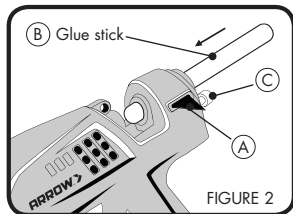

FIGURE 2
- Always attach "wing stands" (see FIGURE 2-A) to the tool. They help prevent glue gun from back flowing if the tool is placed on its side.
- Screw glue control knob into the back of tool to adjust glue output (see FIGURE 2-C).
- Insert 1/2" (12 mm) diameter glue stick through tunnel at back of glue gun (see FIGURE 2-B).
SPECIAL FEATURE: Control knob provides the ability to control the glue output. Turn knob in or out to adjust output of glue (see FIGURE 2-C).